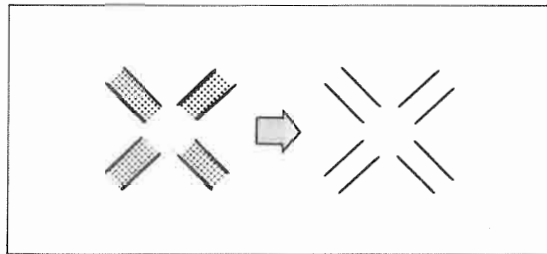

Fig. 8
- (1) Be certain the light path selector knob is pushed in.
- (2) Rotate the diopter correction rings on both eyepieces so that the double crosshairs in the center of the viewfield can be seen as clearly separated lines. (Fig. 8).